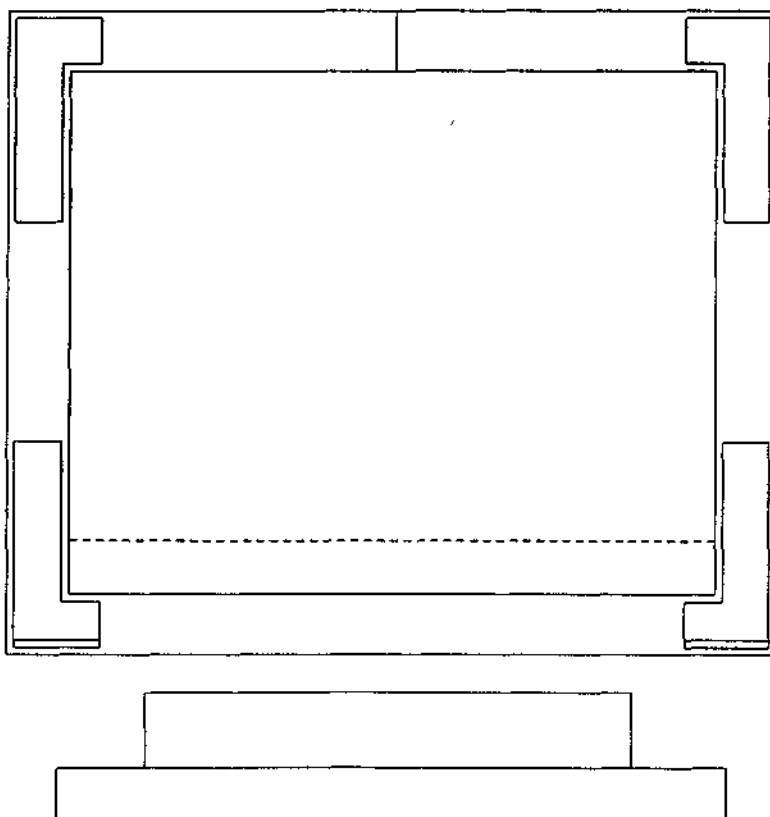

Figure 4
7. Place on top the ceiling P/N 50053 to cover the muffle and the front frame (Figure 4).
8. Close the muffle access inside the muffle using the door P/N 50060 (Figure 4)